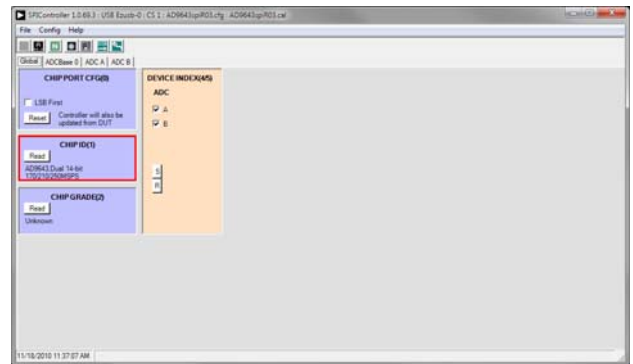

Figure 8. SPI Controller, CHIP ID(1) Section
1. Open the SPI controller software by going to the **Start** menu or by double-clicking the **SPIController** software desktop icon. If prompted for a configuration file, select the appropriate one. If not, check the title bar of the window to determine which configuration is loaded. If necessary, choose **Cfg Open** from the **File** menu and select the appropriate file based on your part type. Note that the **CHIP ID(1)** field should be filled to indicate whether the correct SPI controller configuration file is loaded (see Figure 8).